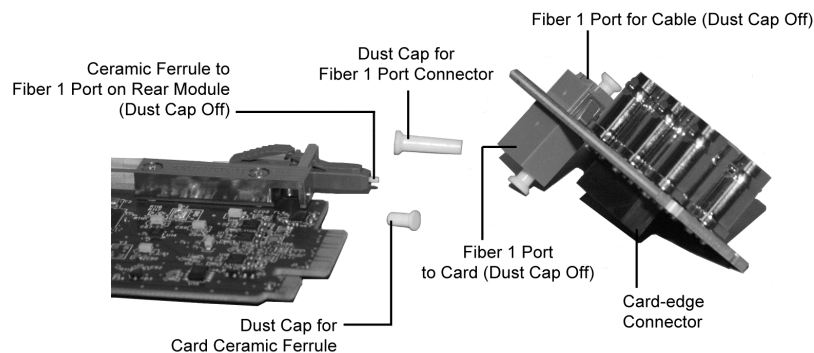

Figure 2.2 Card Connectors with Dust Caps Removed
3. Remove the dust cap from the Fiber ports on the Rear Module that faces the interior of the frame. Refer to **Figure 2.1** and **Figure 2.2** for dust cap locations.